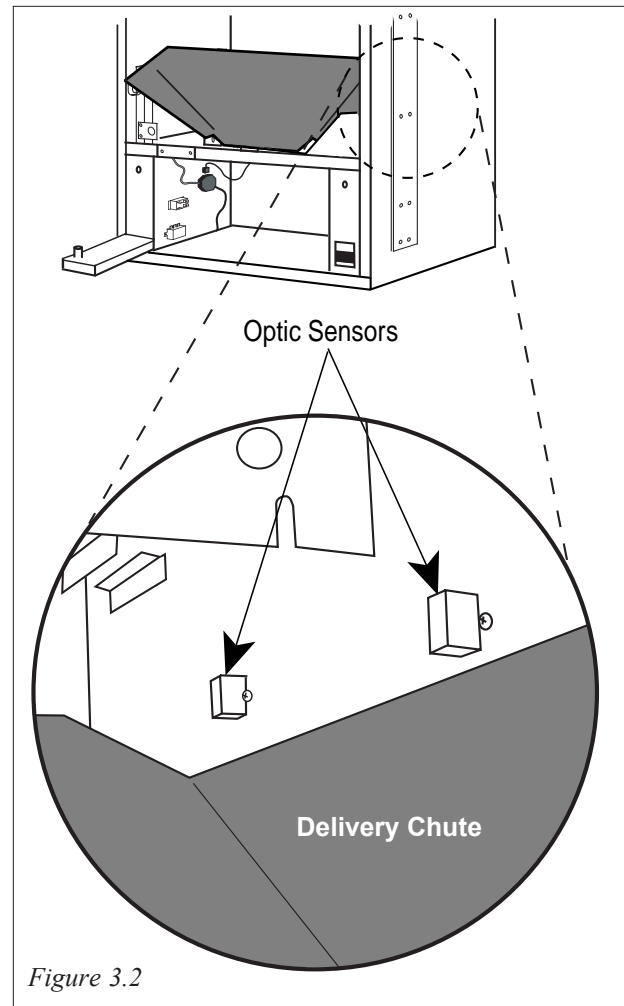

Figure 3.2
The optic sensor (2) is mounted on the right bottom portion of the stack. The reflectors are located on the left bottom portion of the stack. When the optic field is broken, a signal is sent to the board indicating product was delivered and signals the controller to reset and initiate payback of change if too much money was inserted. (see Figure 3.2).